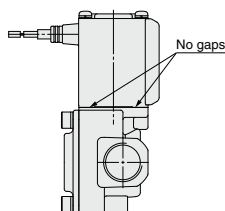

Fig. 1
- Push the coil assembly against the body and tighten the screws two or more rounds diagonally (Fig. 2) in the status that there are no gaps between the coil assembly and body (Fig. 1).
* After tightening the screws, make sure that there are no gaps between the coil and body (Fig. 1).